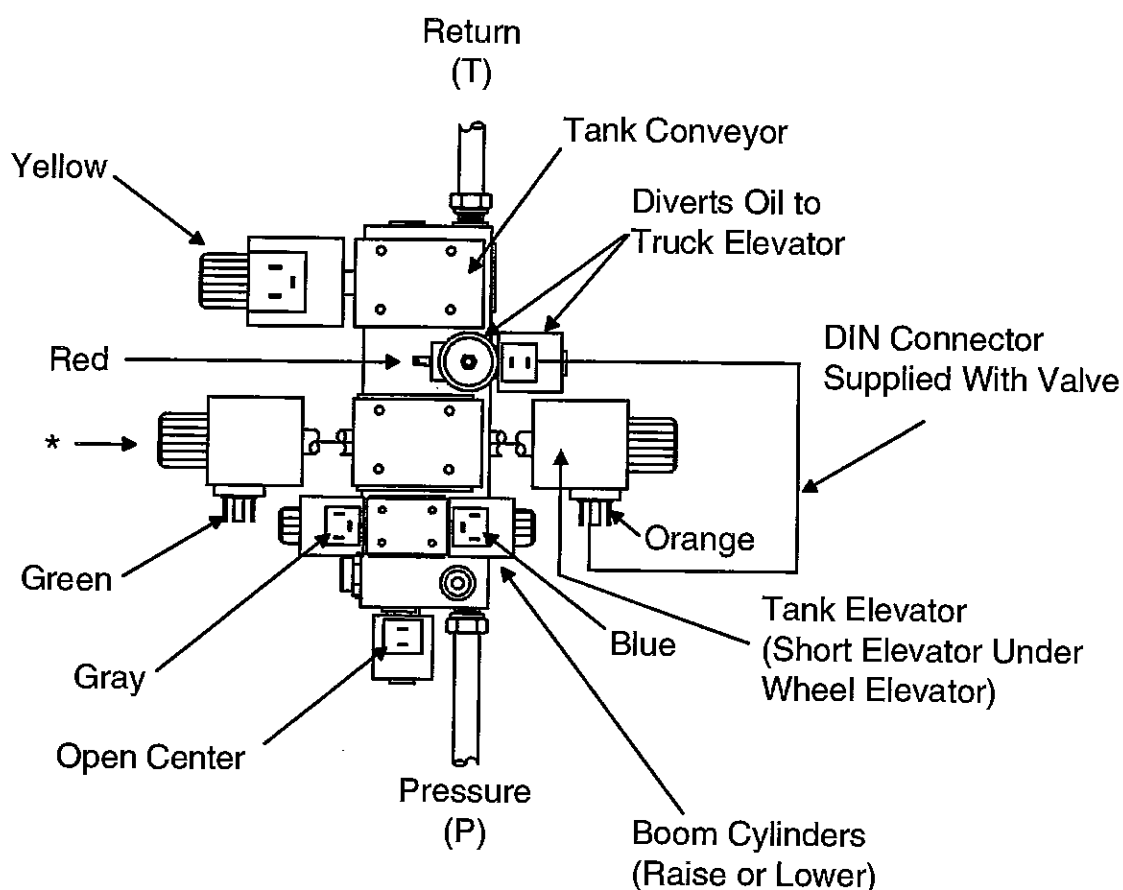

Figure 11. Wiring and Hydraulics
For the procedures below, refer to Figure 11. For a more detailed illustration of the system, refer to Figure 73 on page 53.
2. The pressure side of the valve is identified in Figure 11 as (P). The tractor valve must be set to provide pressure to this port in the valve.
3. Solenoid valves may be manually overridden by inserting a small drift pin and pushing in. See the location marked by * in Figure 11.
Beets are loaded into the tank or truck by the tank elevator and the truck elevator, which are powered by hydraulic motors. Activate the tractor hydraulic lever so pressure is to the pressure port of the main valve (see Figure 11, page 19). Be certain that the truck elevator is raised into position and locked before operating the hydraulic motors. Also be sure to engage the PTO and increase the RPM to adequately handle the volume of beets when emptying the holding tank to avoid plugging the wheel elevator.